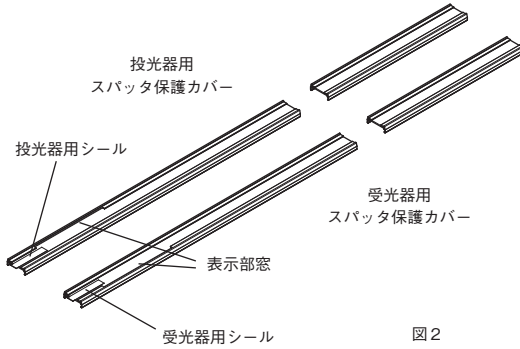

図2
< Figure 2 >
*1 For models with protective height of 1960 or more, use two spatter protection covers as in indicated in the figure 2.